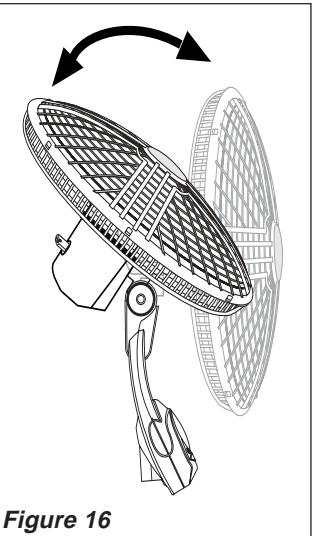

Figure 16
**TILTING:** This Fan is equipped with a multi-angle Fan Head for Whole-Room Air Circulation. Follow the steps below to properly adjust the "tilt angle" of your Fan. (*Figure 16*)